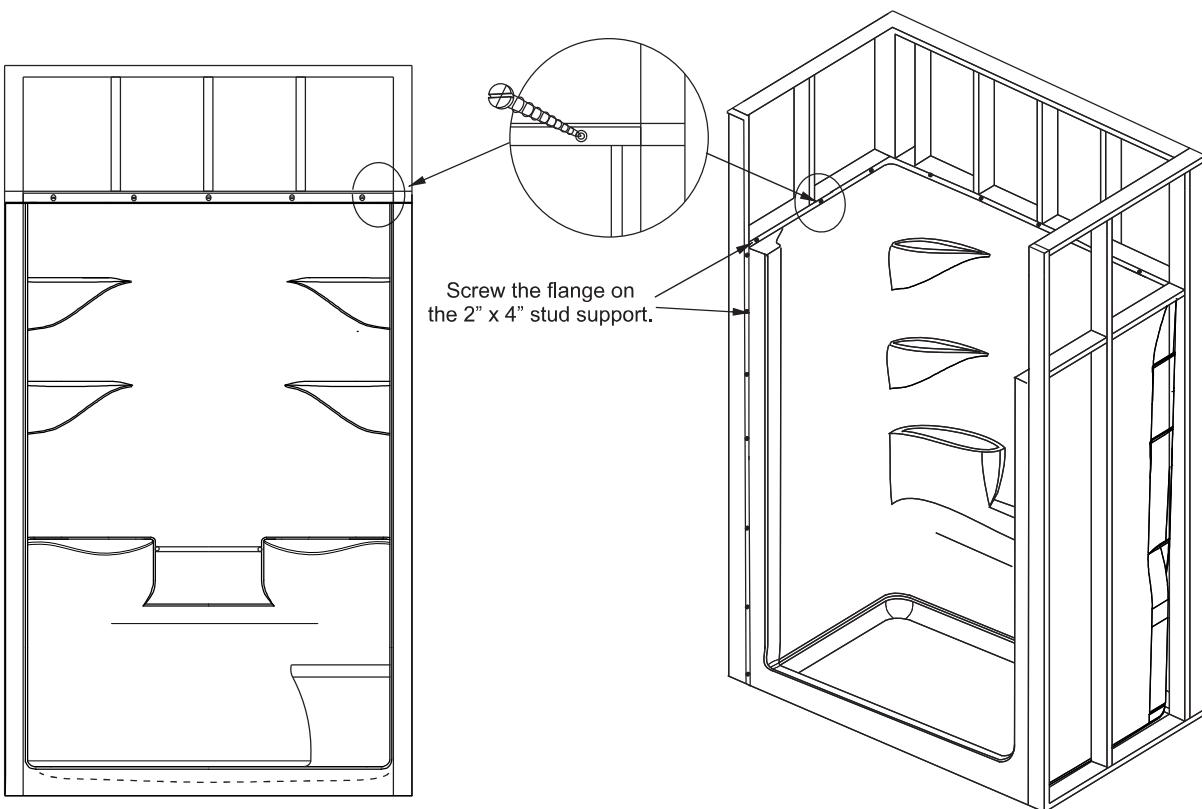

FIGURE 3 - MELROSE FASTENING WITH DRYWALL SCREWS
- The shower is fastened in place using dry wall screws. Holes are to be drilled in by the installer around the top periphery as shown in figures 3 and 4.